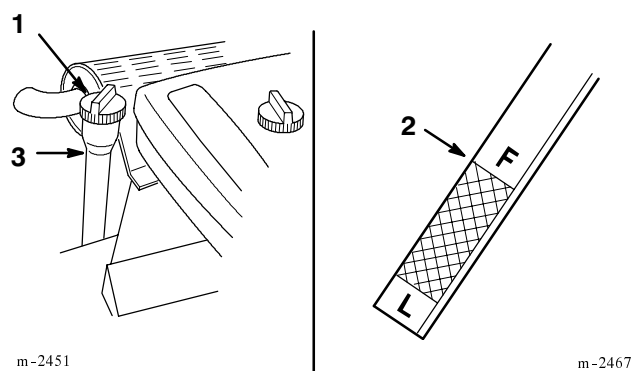

Figure 18
3. Clean around the oil dipstick (Fig. 18) so dirt cannot fall into the filler hole and damage the engine.
4. Unscrew the oil dipstick and wipe the metal end clean (Fig. 18).
5. Slide the oil dipstick fully into the filler tube, do not thread onto tube (Fig. 18). Pull the dipstick out and look at the metal end. If oil level is low, slowly pour only enough oil into the filler tube to raise the level to the “FULL” mark.
6. Slowly pour approximately 80% of the specified amount of oil into the filler tube (Fig. 18). Now check the oil level; refer to Checking Oil Level, page 21. Slowly add additional oil to bring to "FULL" mark on dipstick.